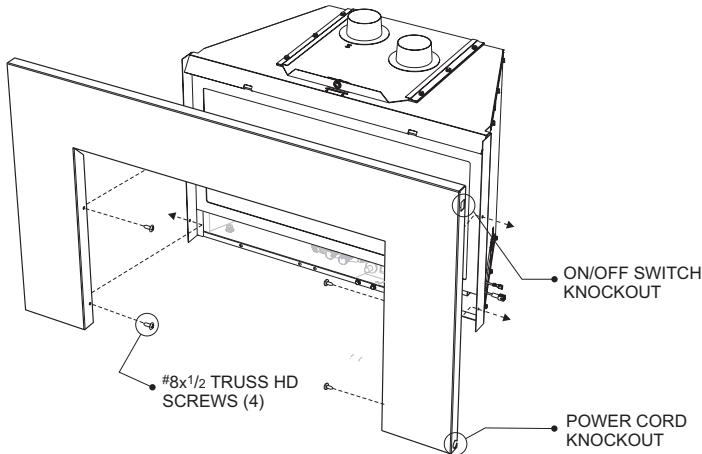

Figure 15
1. Secure the surround to the fireplace insert flanges with four #8 x 1 1/2-inch truss head screws (two each side). **See Figure 15.**
6. Attach the surround assembly to the insert. **See Figure 15** on page 19 and refer to the installation instructions supplied with the surround.